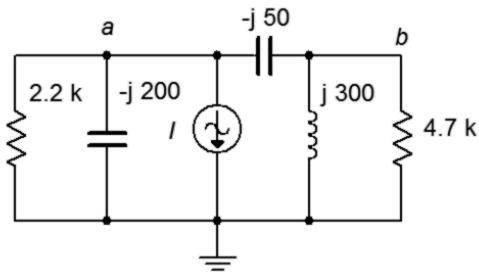

Figure 5.26
52. For the circuit of Figure 5.26, determine the Thévenin and Norton equivalents that drive the combo of $4.7\text{ k}\Omega$ in parallel with $j300\ \Omega$. Does this combo achieve maximum load power? If not, what combo will achieve maximum power and what is the resulting power? $I = 200\text{E}-3\angle 0^\circ$.